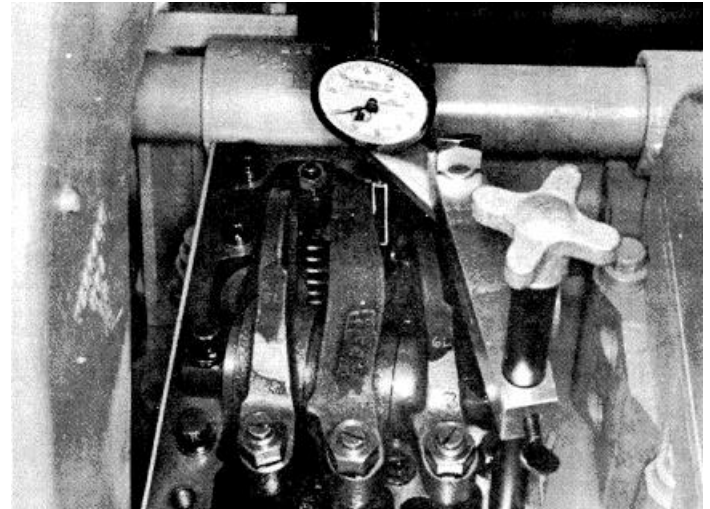

Fig. 2-62, (K21920). Dial indicator in place - extension in contact with plunger
**Note:** Any valve set position may be used as a starting point when adjusting the injectors, crossheads and valves. Determine which of the two (2) cylinder indicated have both valves closed (rocker levers free). This cylinder is in position for injector plunger travel, crosshead and valve adjustment.
2. Set up 3375007 Indicator Support on the rocker lever housing, of the cylinder selected, with the indicator extension 3375005 on the injector plunger top. Fig. 2-62.